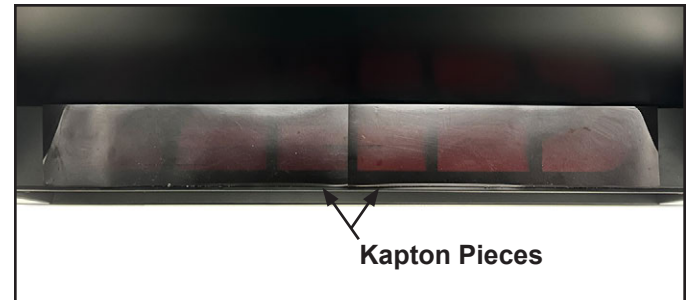

Figure 4.15 Place Kapton Pieces
2. Place the two pieces of Kapton onto the ember bed tray. Make sure that the Kapton pieces meet in the middle of the ember bed. See Figure 4.15.